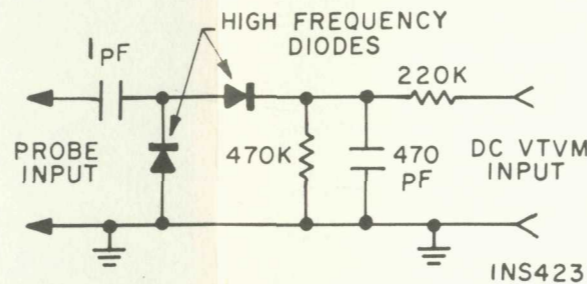

FIGURE 2. PROBE DETECTOR CIRCUIT.
- Rotate the tuning capacitor drive drum to its maximum clockwise position, allowing the dial cord to follow the grooves in the drive drum (Figure 2). Keep the dial cord taut during this procedure.
- Connect detector doubler circuit shown in Figure 2 between probe of DC VTVM and TP301 on the IF board.